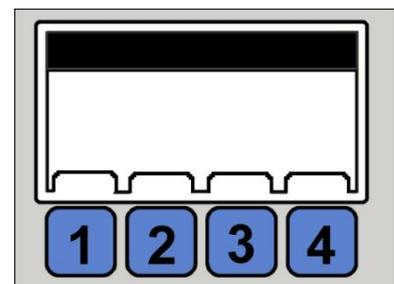

Fig. 5.1
**Entering the figures:** Using the multi-function keyboard. See Figure 5.1